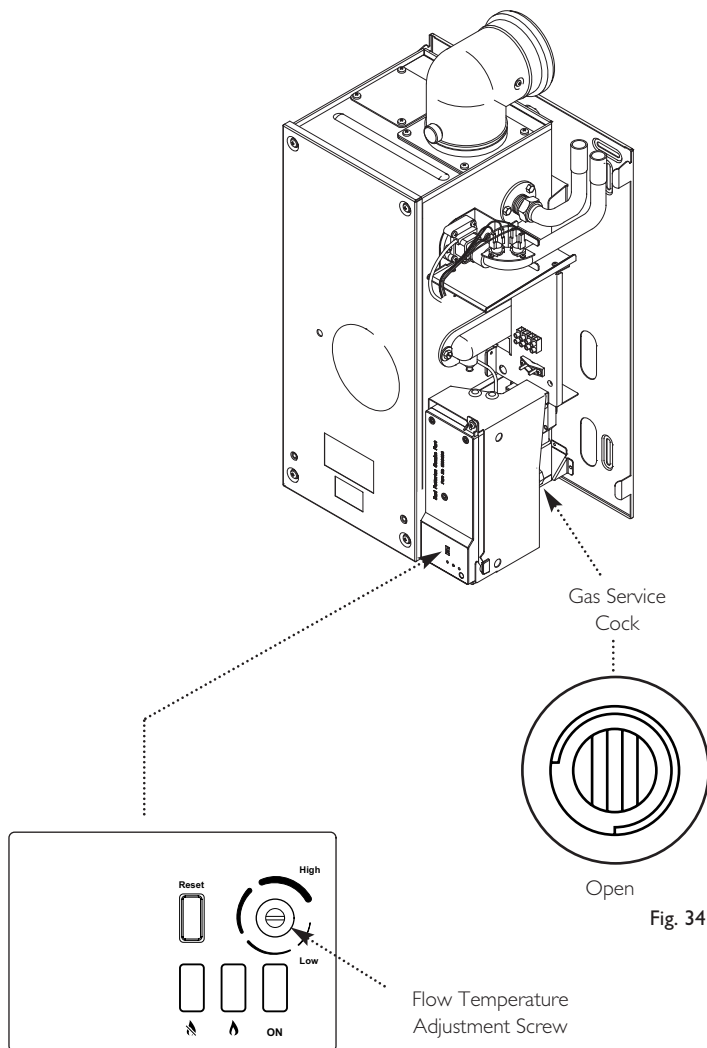

Fig. 35
7. Turn the flow temperature adjustment screw fully clockwise (Fig. 35) and run the system and check the boiler for correct operation.